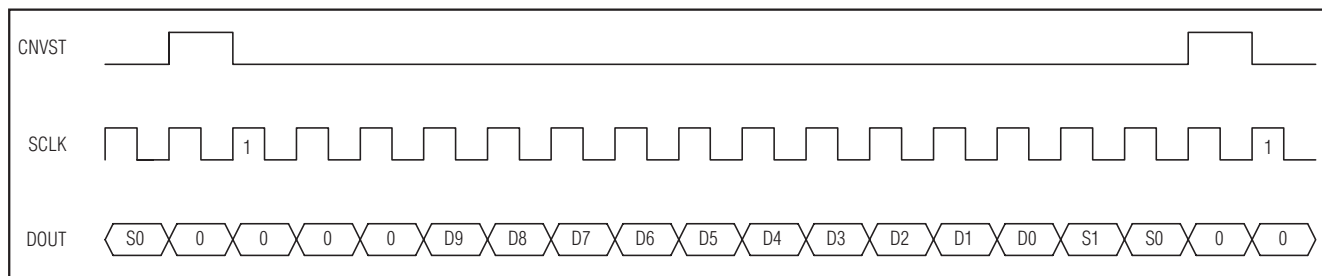

Figure 17. DSP Interface—Continuous Conversion
The MAX1072/MAX1075 can also be connected to the TMS320C54_ by using the data transmit (DX) pin to drive CNVST and the CLKX generated internally to drive SCLK. A pullup resistor is required on the CNVST signal to keep it high when DX goes high impedance and 0001hex should be written to the DXR continuously for continuous conversions. The power-down modes may be entered by writing 00FFhex to the DXR (see Figures 17 and 18).
ters should be configured for late framing (LAFR = 1) and for an active-low frame (LTFS = 1, LRFS = 1) signal. This is also the best way to enter the power-down modes by setting the word length to 8 bits (SLEN = 1001). Connect the VL pin to the ADSP21_ _ _ supply voltage when the MAX1072/MAX1075 are operating with a supply voltage higher than the DSP supply voltage (see Figures 17 and 18).